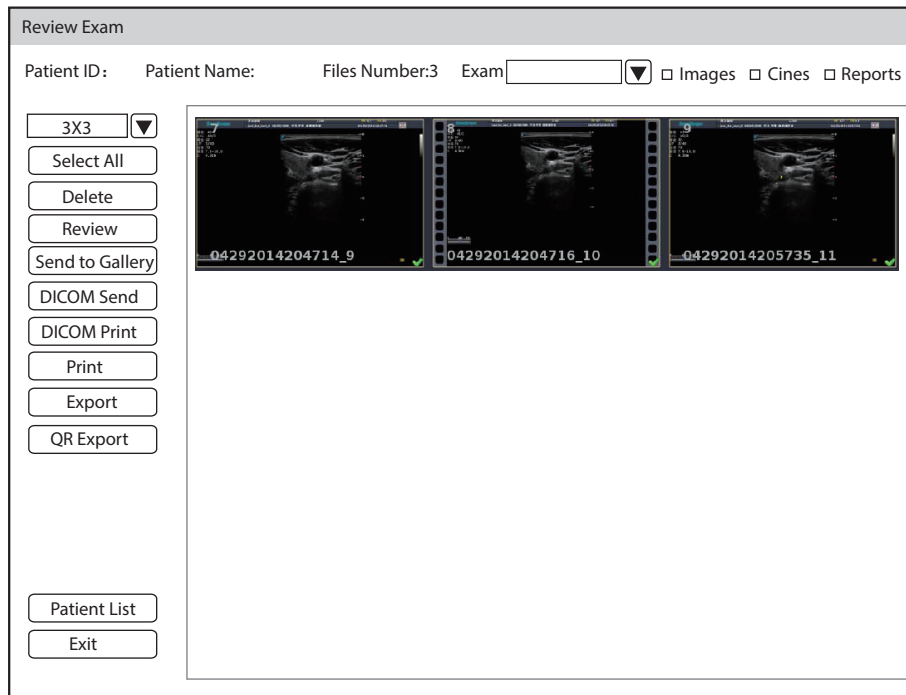

Figure 8-1 Review Exam Screen
1. Tap **Review** on the touch screen to enter the **Review Exam** screen, as shown in Figure 8-1. The thumbnails of images and cines are displayed in the list.